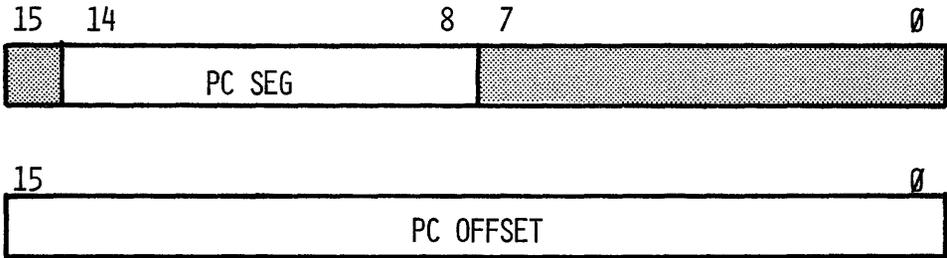
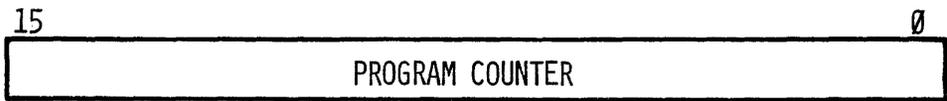

FIGURE 3 AmZ8001 PROGRAM COUNTER
FIGURE 4 AmZ8002 PROGRAM COUNTER
The CPU operation is controlled by instructions fetched from the memory. The address for instruction fetch is supplied by the PROGRAM COUNTER (PC). Figure 3 shows the AmZ8001 program counter. It consists of two words, seven bits of the first word are used to specify the segment number and 16-bit offset is specified in the second word. The segment number designates one of 128 segments and the 16-bit offset designates a memory location in that segment. The instructions are always word aligned and the PC is incremented by multiples of 2 to fetch instructions from sequential memory locations. It should be noted that incrementing the offset cannot affect the segment number. In other words, carry from offset will not propagate into the segment number of the PC; instead the offset counter will simply wrap around. Figure 4 shows the AmZ8002 PC format consisting of 16 bits. Except for the absence of the segment number portion PC operation of the AmZ8001 and AmZ8002 are identical. When reset, the AmZ8001 PC SEG will be automatically loaded from memory address 4 and PC OFFSET will be automatically loaded from address 6. AmZ8002 PC will be automatically loaded from memory address 2 upon reset. All these memory addresses are located in segment 0.